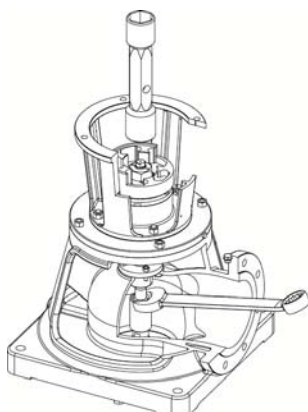

Figure 13
- Insert one flat spanner into the flat slots on the transmission shaft **O** and a socket wrench **P** on the regulating nut (fig. 13). Holding **O** quite still immobile, screw down **P** in order to lift the transmission shaft.